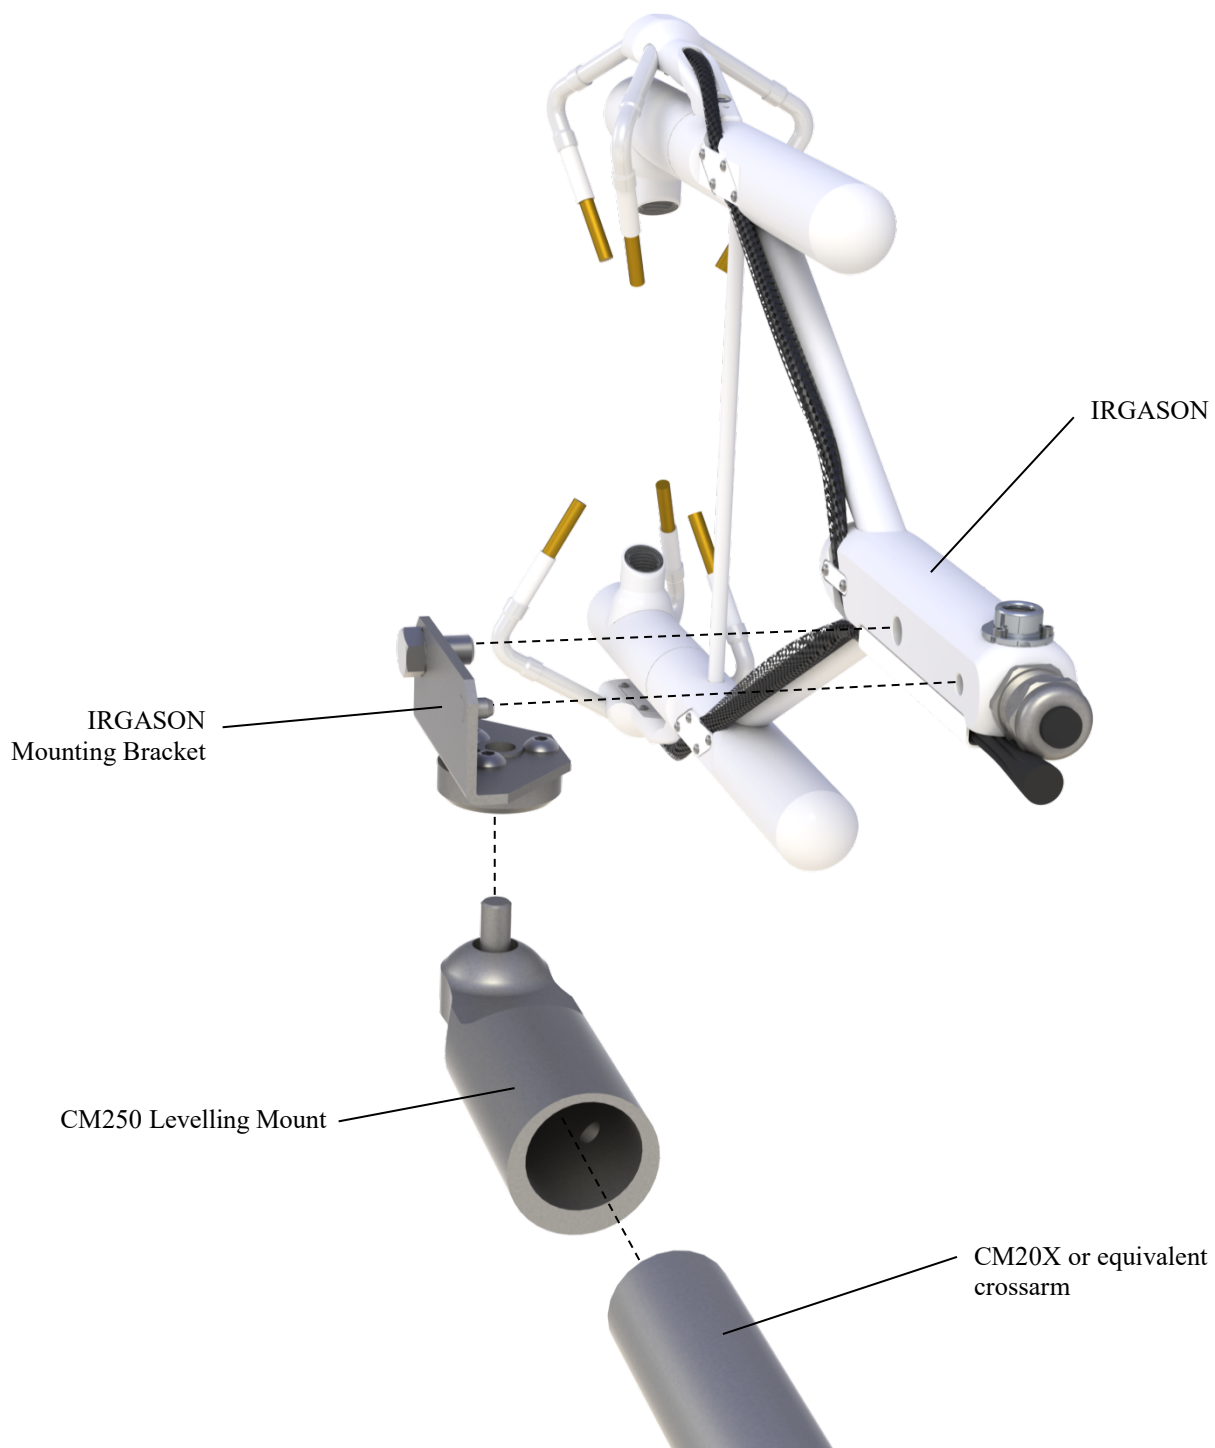

FIGURE 6-1. Exploded view of mounting the IRGASON
The IRGASON is supplied with mounting hardware to attach it to the end of a horizontal pipe with a diameter of 1.3 in., such as the Campbell Scientific CM202, CM204, or CM206 crossarm. The following steps describe the normal mounting procedure. Refer to FIGURE 6-1.
3. Bolt the IRGASON mounting bracket to the CM250 levelling mount (see FIGURE 6-1).